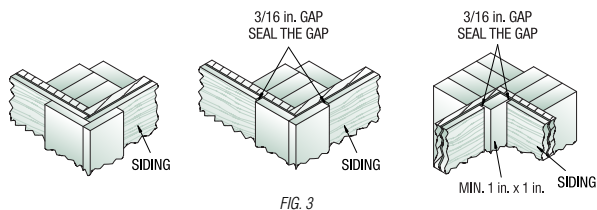

FIG. 3
- Gap the siding at all corners 3/16 in. and seal. *See Fig 3.*
- When butting siding to inside or outside corners, use a minimum 4/4 in. thick (nominal) dry wood material. TruWood Trim is recommended. See Fig 3.